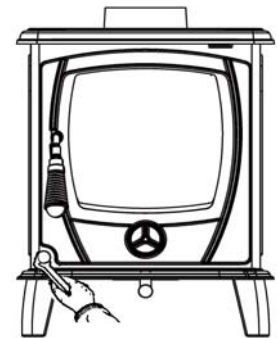

Figure 12
**Anthracite/Coal:** Riddle the fire using the grate operating tool before refuelling. This is done by fitting the operating tool to the grate pull rod and gently pushing it in & out so has to rotate the moveable grate (see Figure 12). Before opening the door, open the spin valve fully and then add fuel as required ensuring not to overfill the fuel higher than the firebars. Close the fire door & reset the spin valve to the desired setting.